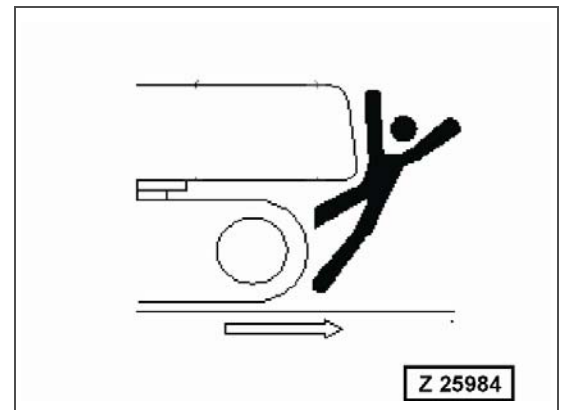

Fig. 2-23
- Before traveling, check again that there is no one in the surrounding area, and that there are no obstacles (Fig. 2-23).